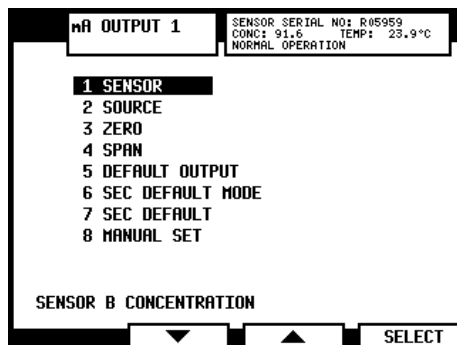

Figure 6.10 The Output menu for mA Output 1
- Select the mA output, 1 or 2, to get to the Output menu (Figure 6.10 below) where the output can be configured.
Note: The line at the bottom of the Output menu display indicates the current configuration of the selected mA output, e.g. in Figure 6.10 mA Output 1 has been configured to send the concentration reading of Sensor B.